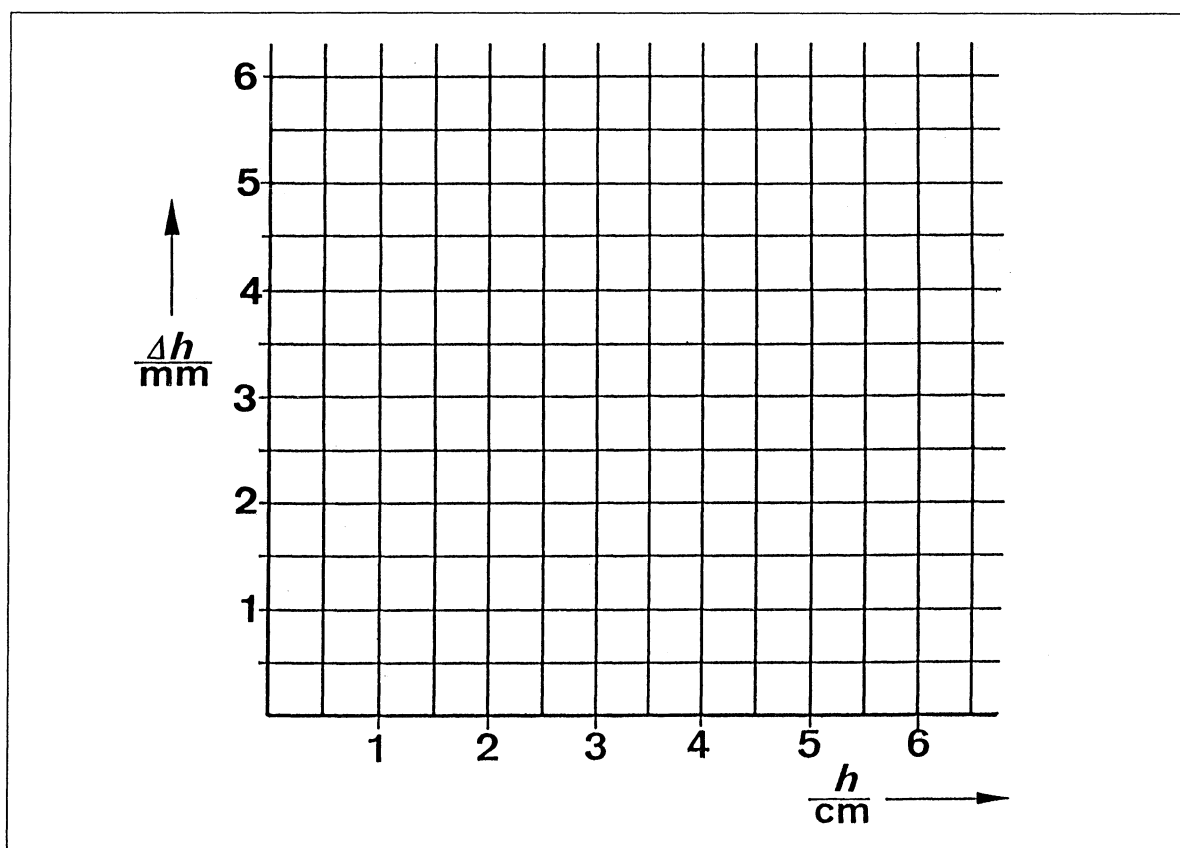

Fig. 4 Graph showing how the difference in height Δh in the manometer depends on the depth of immersion h .
19. Enter the measured values from table 1 in the graph in fig. 4.